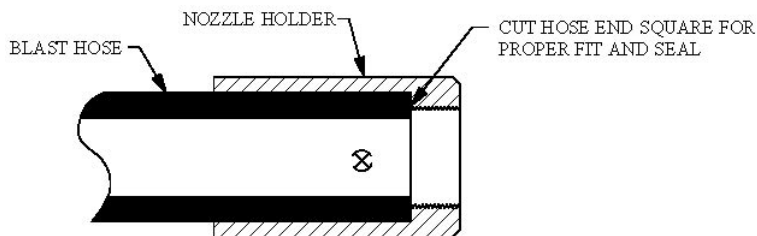

Figure 8.3 – Hose End Fit up
- 8.8. **Blast and Air Hoses:** All air hose, blast hose, and threaded couplings have gaskets that seal the connection. To prevent loss of air pressure and/or premature abrasive wear replace these gaskets when leaks are found. Inspect the couplings daily for leaks and wear. Replace gaskets when visible wear or leaks are found. When installing or replacing hose couplings cut the hose end square for secure fit (see Figure 8.3). To insure proper coupling connection always use fittings that are the same brand. See the drawings and part lists in Section 9.1 and 9.2.